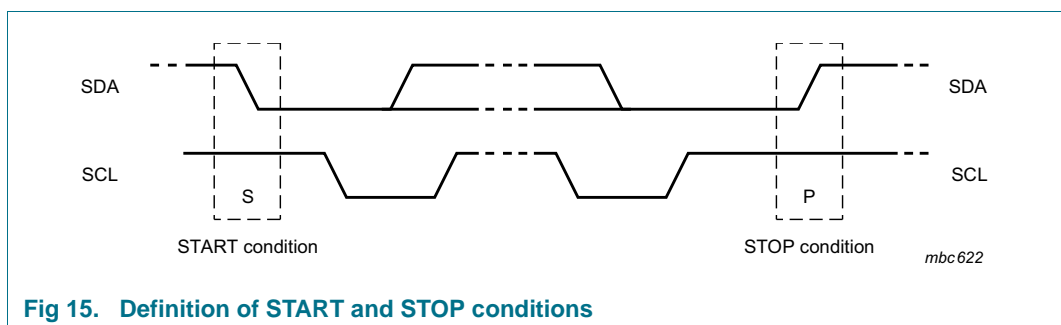

Fig 15. Definition of START and STOP conditions
Both data and clock lines remain HIGH when the bus is not busy. A HIGH-to-LOW transition of the data line, while the clock is HIGH is defined as the START condition (S). A LOW-to-HIGH transition of the data line while the clock is HIGH is defined as the STOP condition (P). The START and STOP conditions are shown in Figure 15.